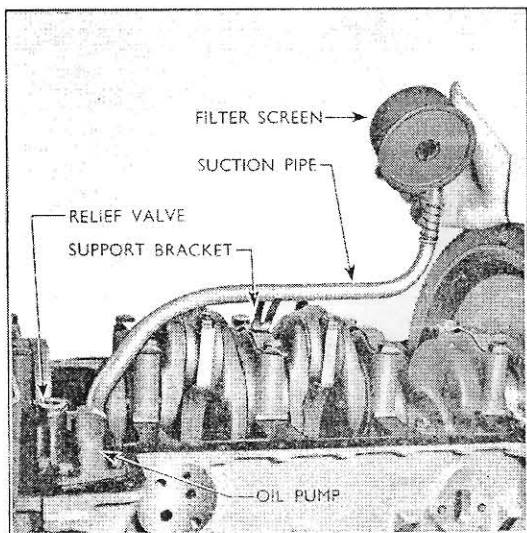

Fig. 13.
19. Remove the oil pump filter screen, (see Fig. 13) straighten the tabs on the suction pipe union locking plate and unscrew the union nut. Remove the suction pipe support bracket screw which is located in the centre main bearing cap, and detach the pipe from the pump.